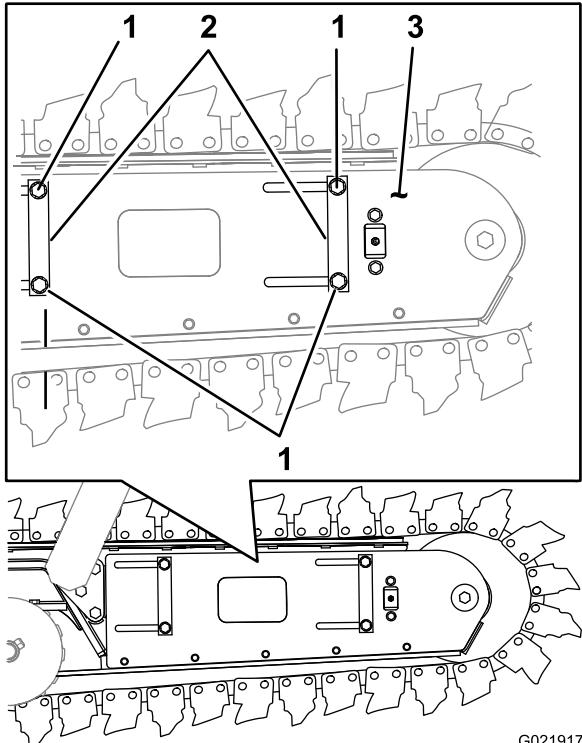
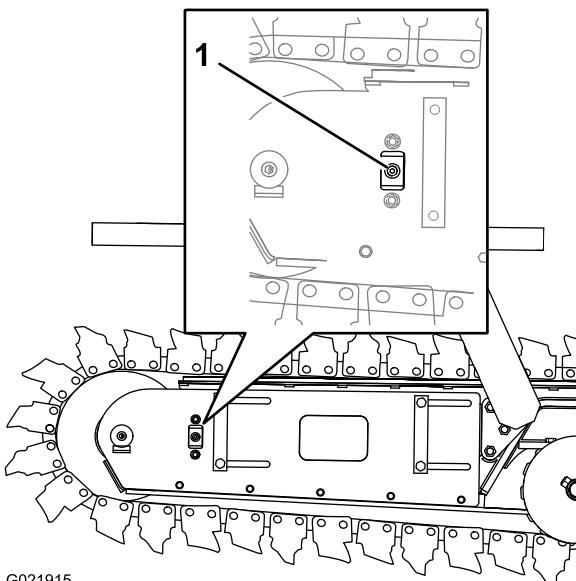

Figure 32
Figure 33
- At the left side of the boom, loosen the 4 bolts that secure the lock bars and the side plates (Figure 32).
- Locate the bleed plug (hex-socket) at the side plate on the right side of the boom (Figure 33).
- Slowly rotate the bleed plug counterclockwise 2 or 3 revolutions, and allow the grease to flow from around the plug (Figure 33).
- When you achieve a 51 to 76 mm (2 to 3 inch) gap between the chain and the wear strip, tighten the plug (Figure 32 and Figure 33).
- Torque the 4 bolts (Figure 32) that secure the lock bars and the side plates to 190 to 215 N·m (140 to 159 ft-lb).
4. Loosen the bolts that secure the lock bars and the side plates on the left side of the boom (Figure 32).
8. Torque the 4 bolts (Figure 32) that secure the lock bars and the side plates to 190 to 215 N·m (140 to 159 ft-lb).